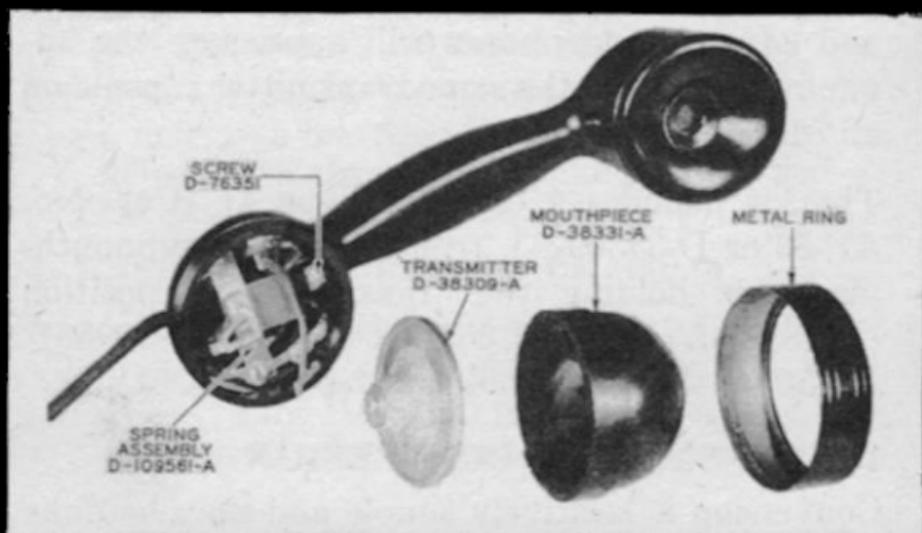
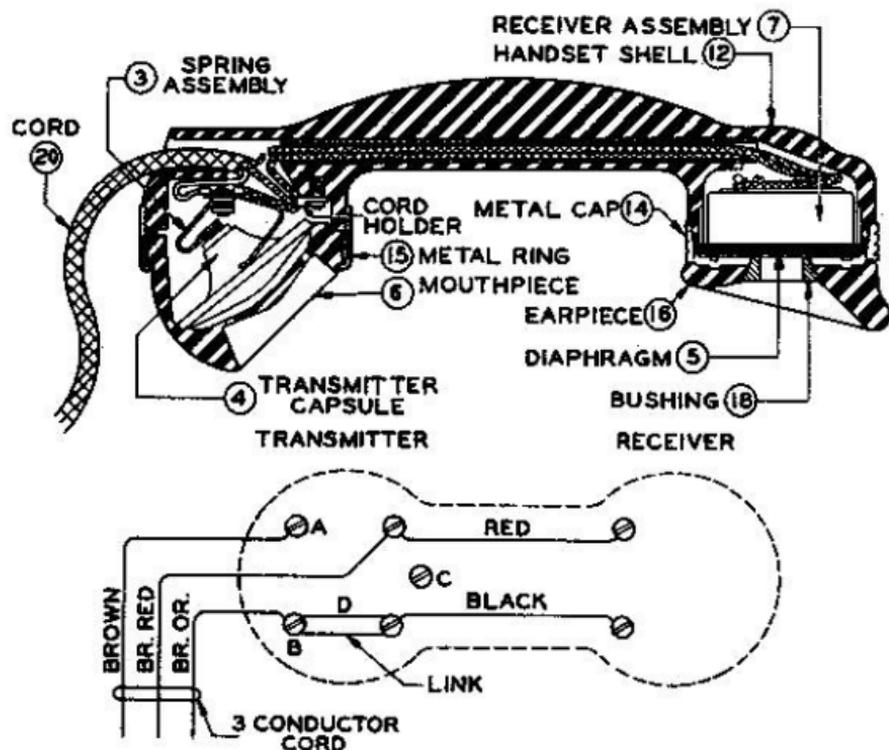

Fig. 1 A Converted Type 38 Handset
Fig. 3 Cross-Section of a Type 38 Handset Including a Wiring Diagram
- 1.4 Disconnect transmitter lead wires by removing the two terminal screws "a" & "b" on the handset shell (Fig. 3). These wires will not be reused.
- 1.5 Replace the high stay-cord screw, "c," (if present) with the short screw (Fig. 3) supplied with the kit. Secure the stay-cord.
- 1.6 Take the spring assembly from the kit. Place it in the handset shell as shown in Figs. 1 & 3, with the prongs pointed outward and the bend inward toward the stay-cord screw.
- 1.7 Place the shunting link "d" (Fig. 3) over the spring strip (Fig. 1).
- 1.12 Take the handset in the left hand and lower face-downward onto the transmitter unit held in the right hand, aligning the moulded keys. (See Fig. 1.)